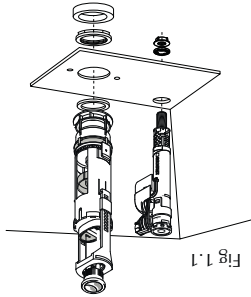

Fig 1.1
2) Following the correct procedures for the type of flush kit included install the inlet and outlet valves as shown fig 1.1.